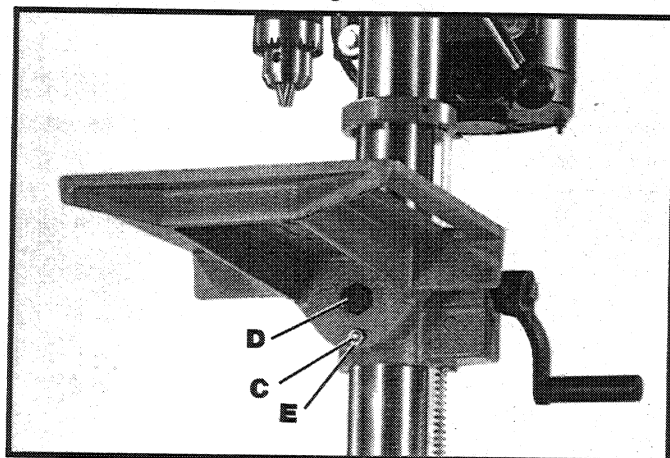

Fig. 31
3. The table can be tilted right or left by pulling out and removing table alignment pin (C) Fig. 31, and loosening table locking bolt (D). **NOTE:** If pin (C) is difficult to remove, turn nut (E) clockwise to pull pin out of casting. Tilt table to the desired angle and tighten bolt (D).